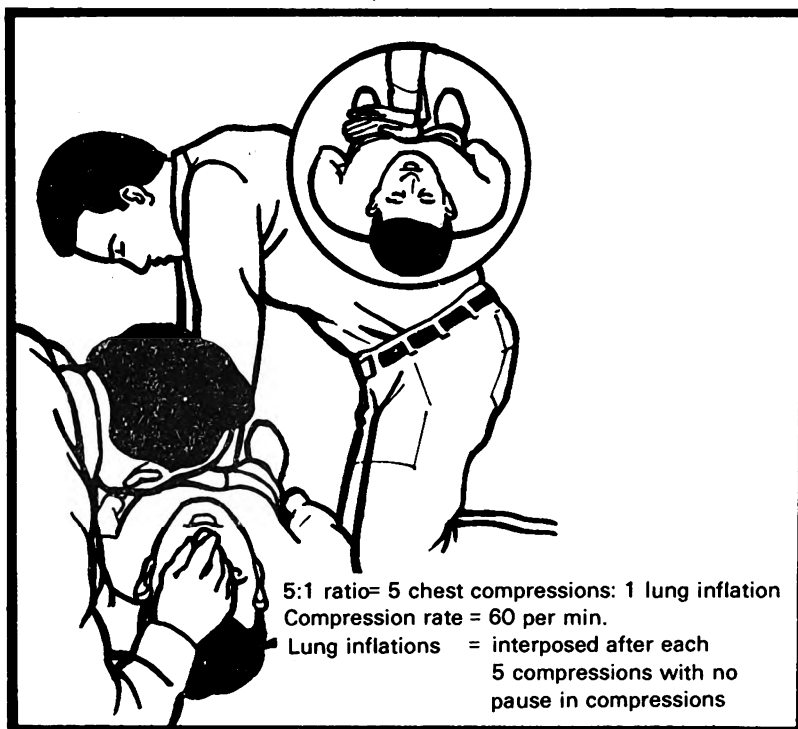

Figure 12.
(1) To do this, the assistant will get on the opposite side of the victim and take over the breathing. When this happens the cycle will change to five compressions to two breaths (figure 12).